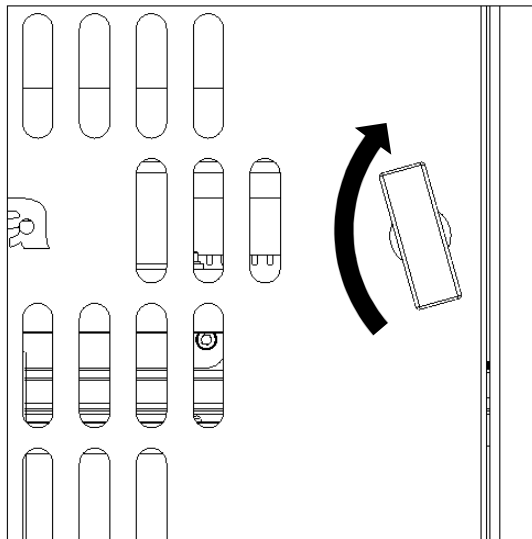

Figure.18
- c) Ensure that back plate of the machine is close. (Figure.18)
- b) Ensure that back plate of the machine is close. (Figure.18)
- c) Check the back door of the machine is fully closed and the parts of the mold is in place. (Figure.18)